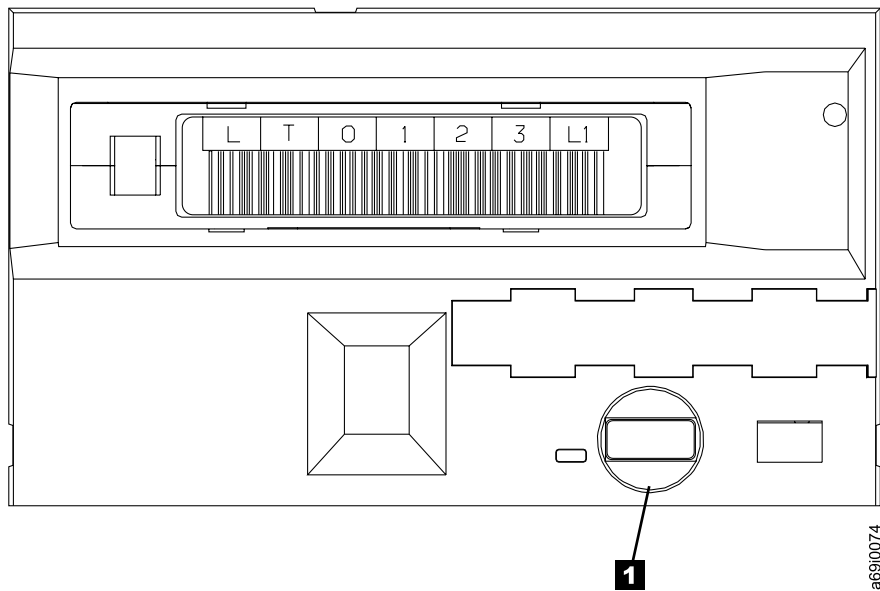

Figure 30. Removing a Cartridge from an Ultrium Tape Drive
- For the Ultrium Tape Drive, press the unload button (see **1** in Figure 30). Remove the cartridge.